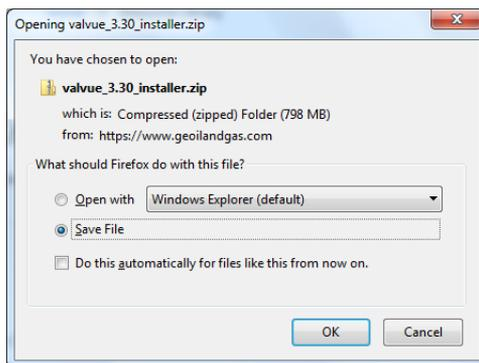

Figure 3 Opening Dialog
2. Use the arrows to move through the selections. Select **Download** below ValVue V3.60 Installer Download and Figure 3 appears.